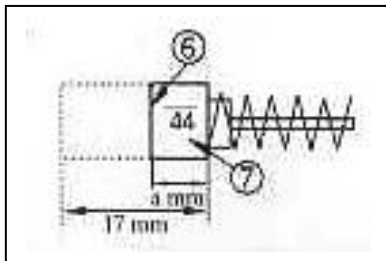

Fig 7
The motor employs carbon brushes that are consumable parts; when an excessively worn carbon brush could result in motor trouble, replace the carbon brush. The carbon brushes must be only replaced by a qualified service. Wear limiter (6) No of carbon brush (7). (See Fig 7)